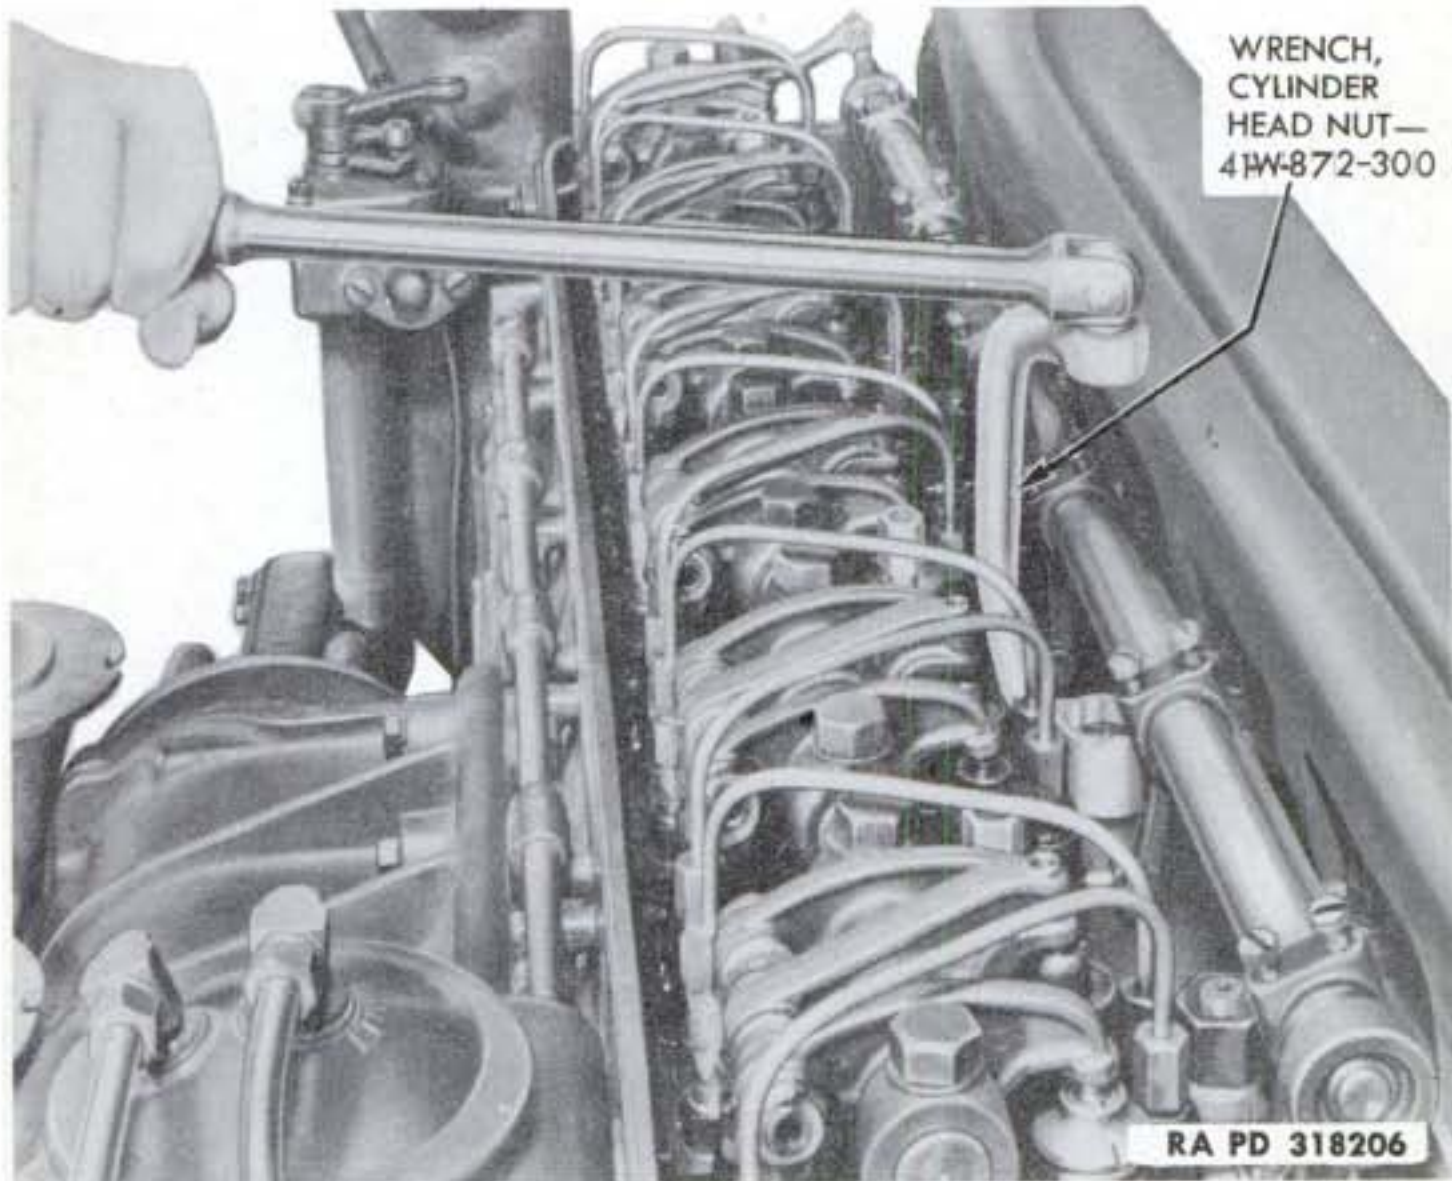

Figure 59—Tightening Cylinder Head Nuts
c. **Installation of Cylinder Head.** Make sure that gasket surfaces on the exhaust manifold and elbow, cylinder block and head are perfectly clean. Position new cylinder head gasket, with side marked "TOP" facing up, over the studs. Attach new cylinder head oil gaskets in position on cylinder block using non-hardening gasket cement. Attach hooks on lifting hook (41-H-2584) in vent holes at ends of cylinder head. Guide cylinder head while it is being lowered on studs, and keep it level so it does not bind on the studs and make sure exhaust manifold clears the exhaust elbow and water bypass tube. Remove lifting hook. Install the 14 cylinder head stud nuts with machined faces down. Screw all nuts down with light pressure (fig. 59). Then, starting at the center and progressing alternately toward each end, tighten the nuts using wrench (41-W-872-300) in combination with torque wrench with 160-170 foot-pounds pull. Cylinder